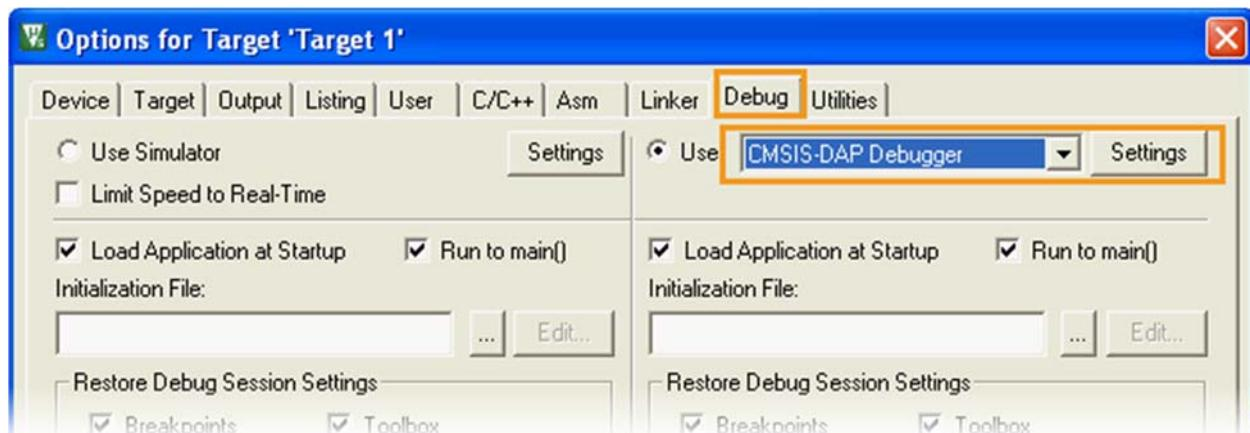

*Figure 41. Select configuration file*
- 4) Select **Utilities** tab, then browse for the **Init File**. Select the file and press **Open**. The configuration file for the SDK is named as flash.ini and located under <sdk\_root>\tools\keil\mt7687, as shown in Figure 41.